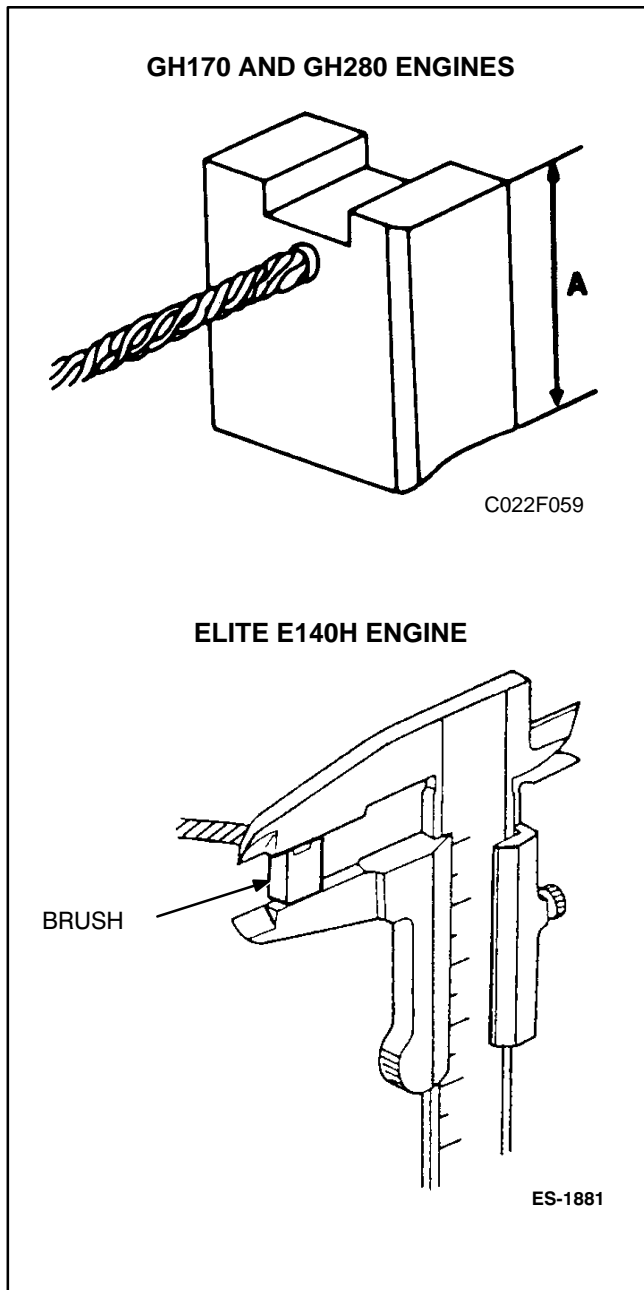

FIGURE 6-26. BRUSH LENGTH
5. Check for continuity between the armature coil core and the armature shaft (Figure 6-26). If continuity is measured replace the armature.
1. Measure the brush length, dimension "A" in Figure 6-26.